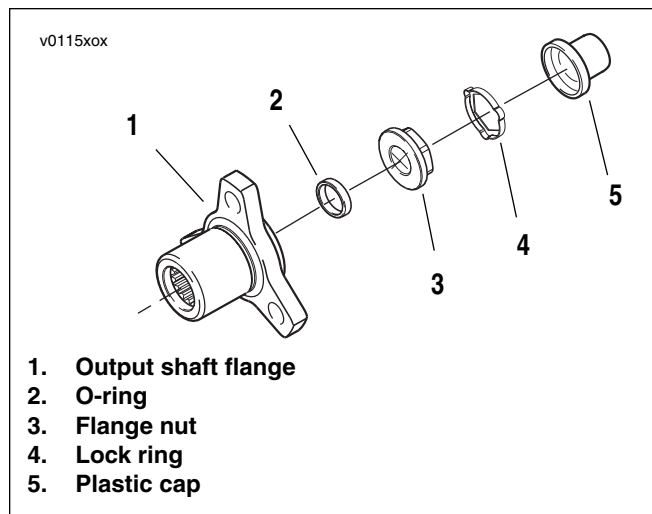
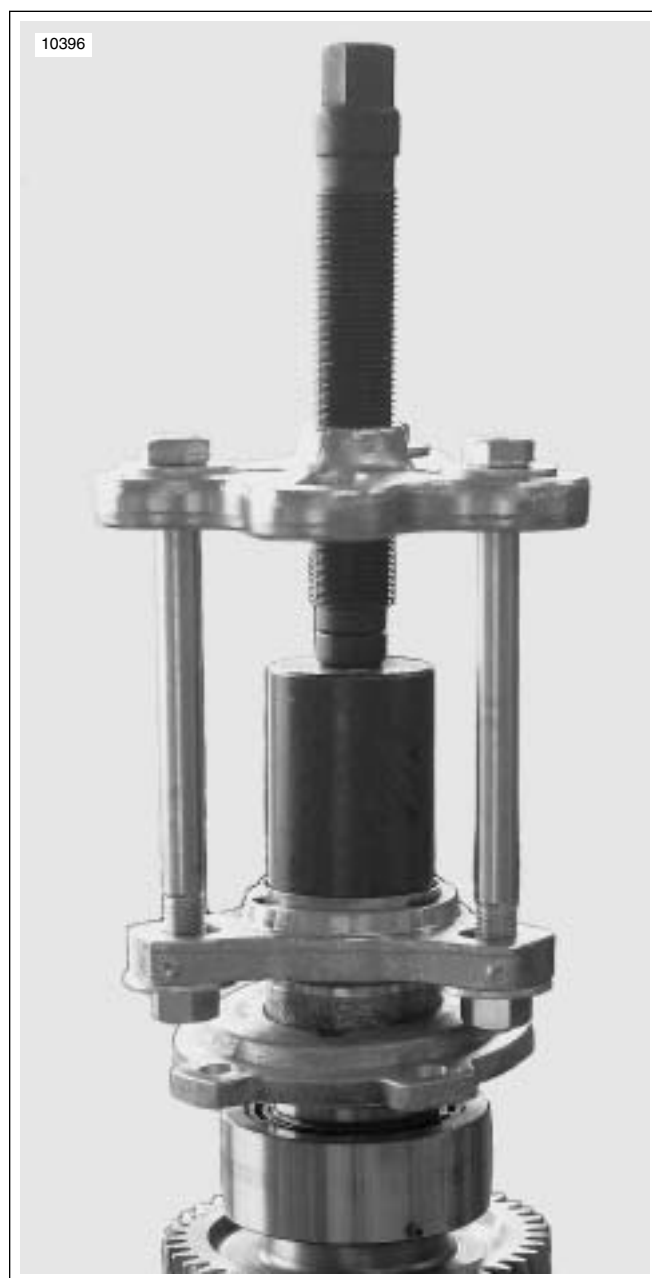

Figure 7-13. Output Shaft Components
Figure 7-14. Crimping Output Shaft Nut Lock-Ring
23. See Figure 7-14. With three 3/8x5 in. bolts with washers and nuts and install a Metric Bolt Grip Puller Set (Snap-on Part No. CJ2001) onto the flange and shaft.
11. See Figure 7-13. Install a **new** O-ring (2) behind a **new** drive sprocket flange nut (3) and install the **new** flange nut (3). Tighten nut to 160 Nm (118 ft-lbs).
12. Position lock ring (4) over flange nut (3).
13. See Figure 7-14. With three 3/8 x5 inch bolts with washers and nuts and install a Metric Bolt Grip Puller Set (Snap-on Part Number CJ2001) onto the flange and shaft. Turn screw down against the FINAL DRIVE SPROCKET LOCKING DEVICE INSTALLER (HD-45332) to crimp lock ring in position.